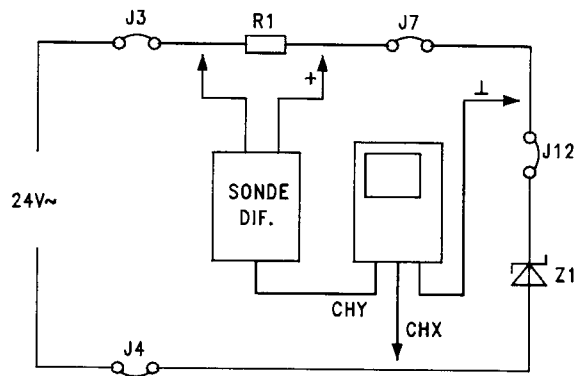

fig.B08.6
- Connect jumpers J3, J7, J12, J4 and connect the oscilloscope as in the circuit of figure B08.6